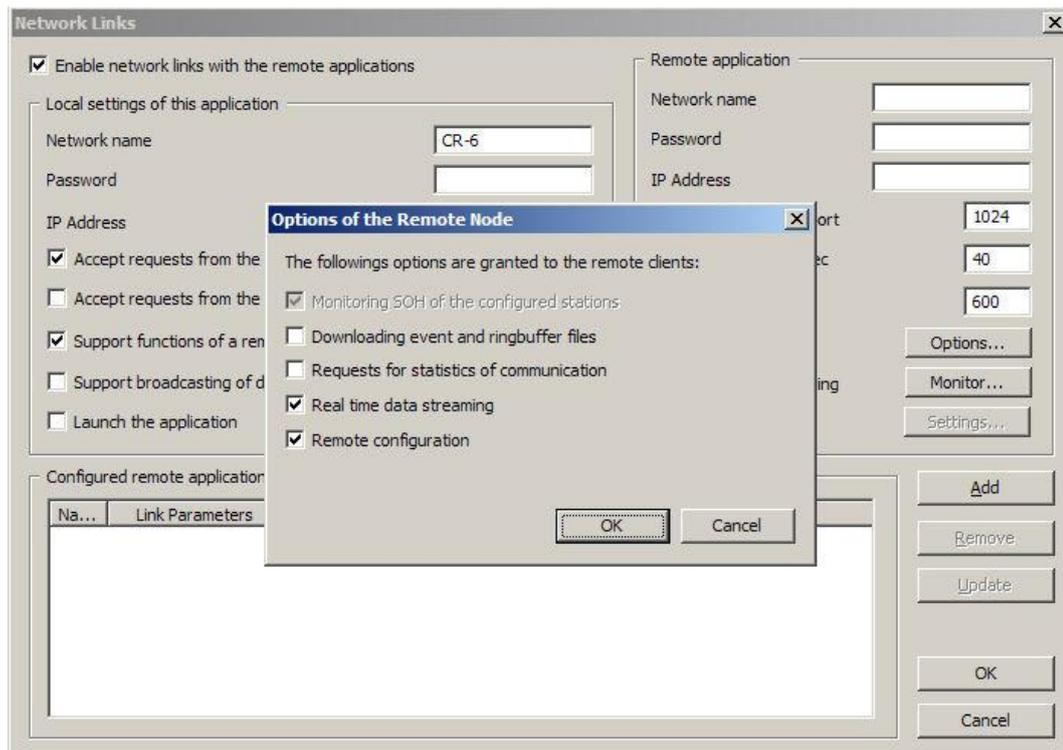

Figure 19. Data forwarding over Network
- Put in the following data on the left side of the window (see Figure 19)